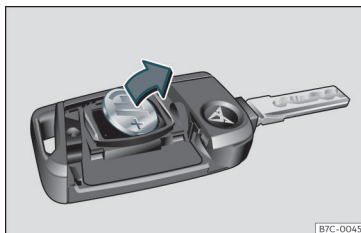

Fig. 68 Vehicle key: removing the battery.
- Extract the battery from the compartment using a suitable thin object »» Fig. 68.
- Place the new battery in the compartment as shown »» Fig. 68, pressing in the opposite direction to that shown by the arrow »» ①.